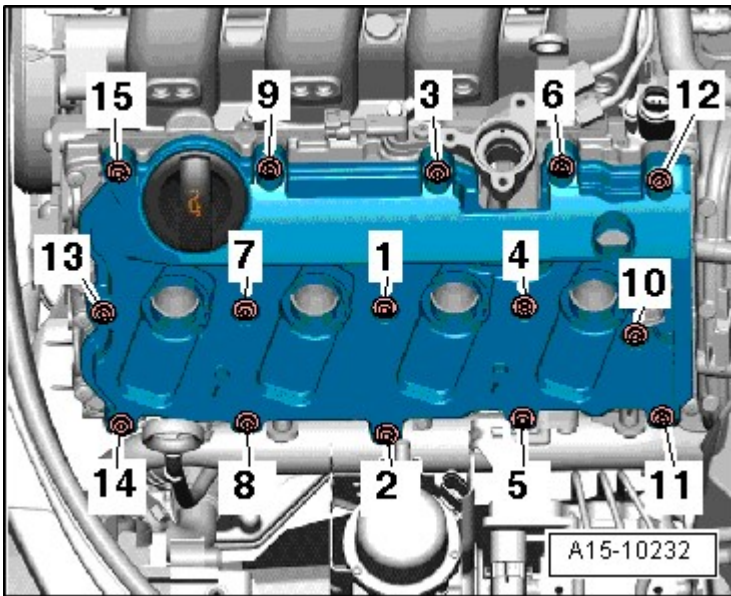
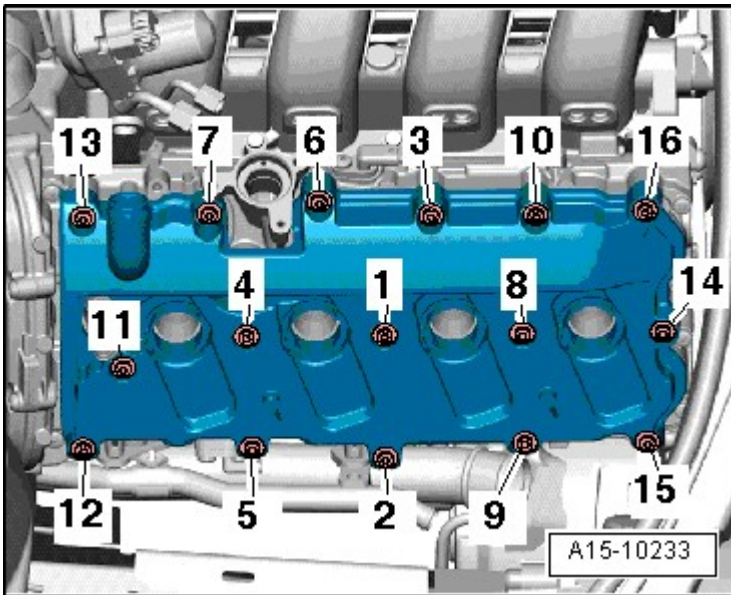

Fig. 5: Identifying Left Cylinder Head Cover Bolts Removal Sequence
Fig. 6: Identifying Right Cylinder Head Cover Bolts Removal Sequence
- Tightening specifications and sequence, refer to **Fig. 5, Fig. 6**